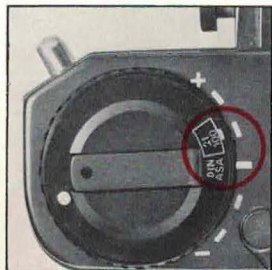
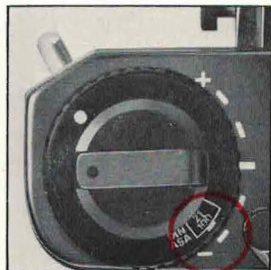

Fig. 36
Fig. 37
- (1) white index 2/3 over exposure
- (2) white index 1/3 over exposure (Fig. 36)
- (3) red index 1× correct exposure
- (4) white index 1/3 under exposure
- (5) white index 2/3 under exposure (Fig. 37)